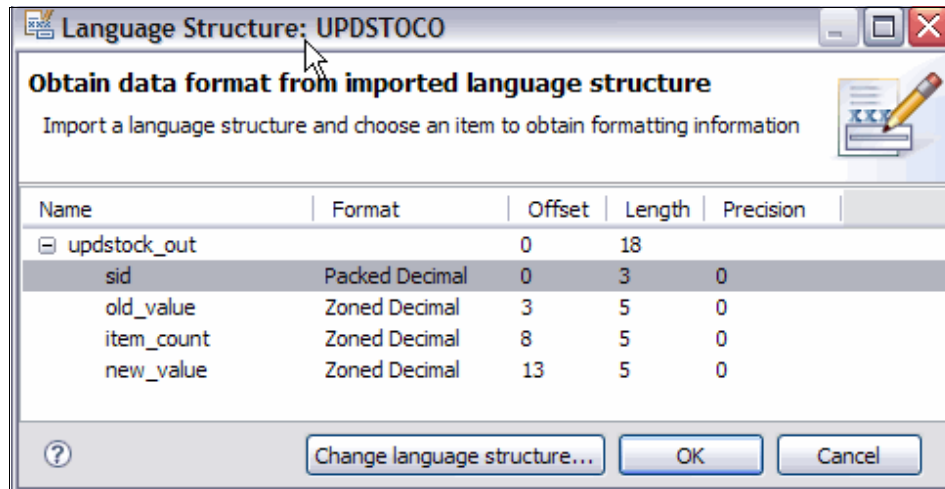

Figure 5-56 Define where to obtain the business information
10. In the “Obtain data format from imported language structure” panel (Figure 5-56 on page 139), click **sid** then **OK**. Repeat the steps for **OldStock** and **NewStock**, where we set the following values: